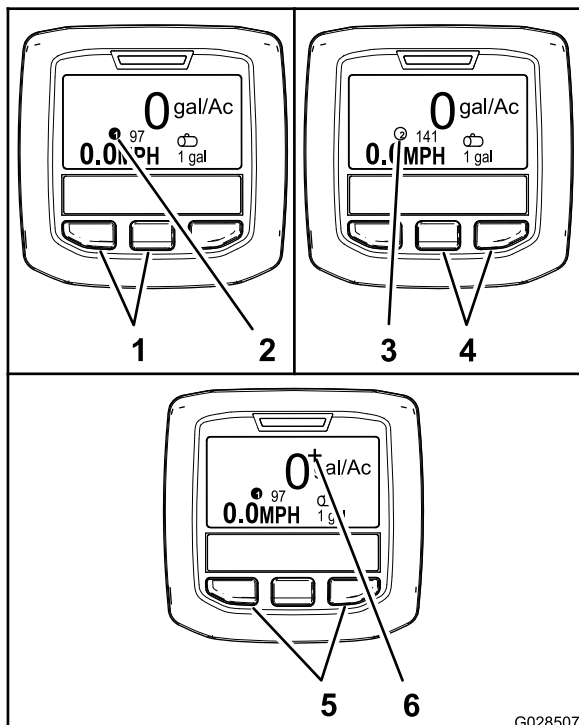

Figure 66
- To select application rate 1, press the left 2 buttons of the InfoCenter (Figure 66).
- To select application rate 2 (application rate), press the right 2 buttons (Figure 66).
- To temporarily apply a boost application rate, press and hold the 2 outer buttons (Figure 66).